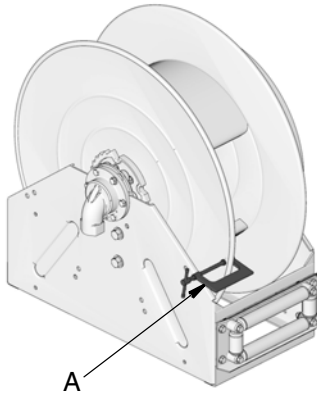

FIG. 56
7. Securely attach a c-clamp (A) to the reel spool as shown in FIG. 56 to help prevent the reel from unintentionally becoming unlatched and spinning freely.